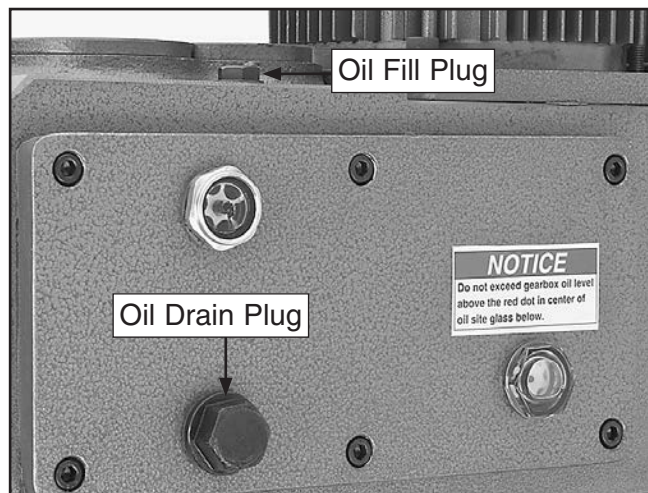

Figure 35. Oil fill and drain locations.
1. Remove the oil fill plug on top of the machine (see **Figure 35**).